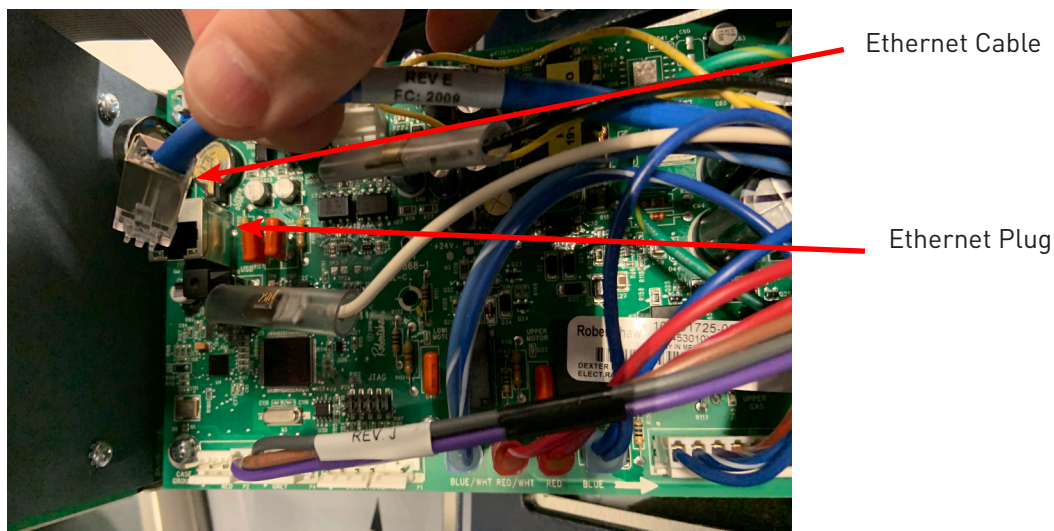
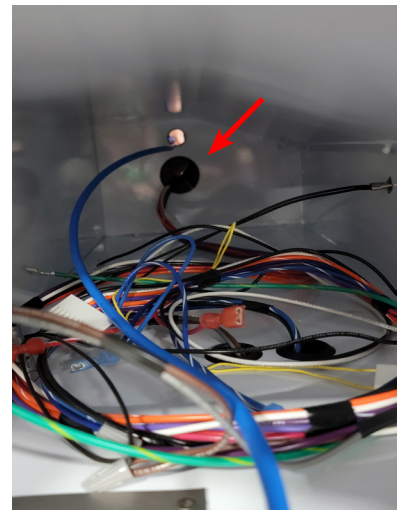

Figure 6
Figure 9
20. The control tray for the dryer should be unlocked and pulled forward to reveal the connector on the front of the long board mounted to the base of the control (Figure 6). Once the control tray is pulled forward, retrieve the cable that routes to your Ethernet switch and connect the cable to the connector on the front of the control board (Figure 9)